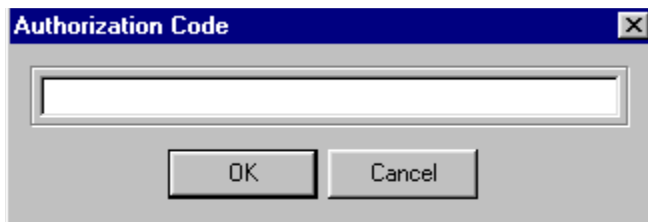

Figure 28: Authorization Code Dialog
6. When the Authorization Code dialog opens, see *Figure 28*, enter the auth code and select OK